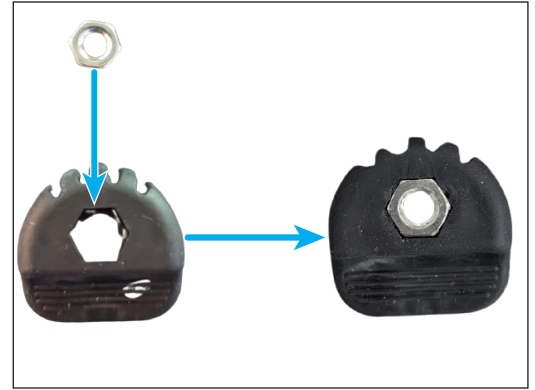

Fig. 4
1. Place a new hex nut into the hexagonal hole on the new rubber foot. (Fig. 4)